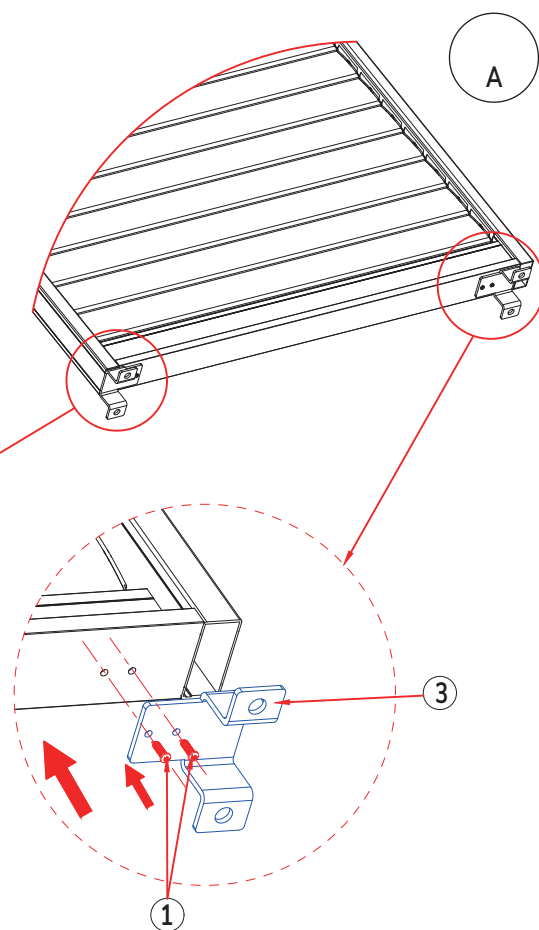

Fig. 2
1. Fasten ③ to ① by ① screws, into the pre-drilled hole positions on the fixed shutter
Note: Position of ③ in Fig. 1 and Fig. 2
③ x2	① x4	① x1